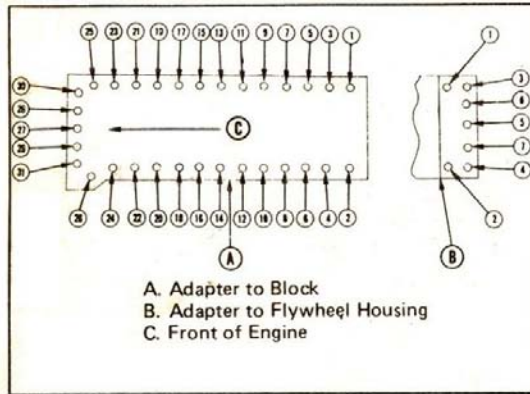

Fig. 14-45, Oil pan adaptor tightening sequence
7. Tighten two (2) end capscrews (flywheel housing end) to hold the pan adapter to the block rail.
8. Starting with the side capscrews securing the buttress end of the adapter to the flywheel housing, tighten the capscrews (Fig. 14-45) alternately and evenly to the values listen in step 11 following. See "B", Fig. 14-45.
10. Tighten the pan adapter to block capscrews in the sequence shown in "A", Fig. 14-45.